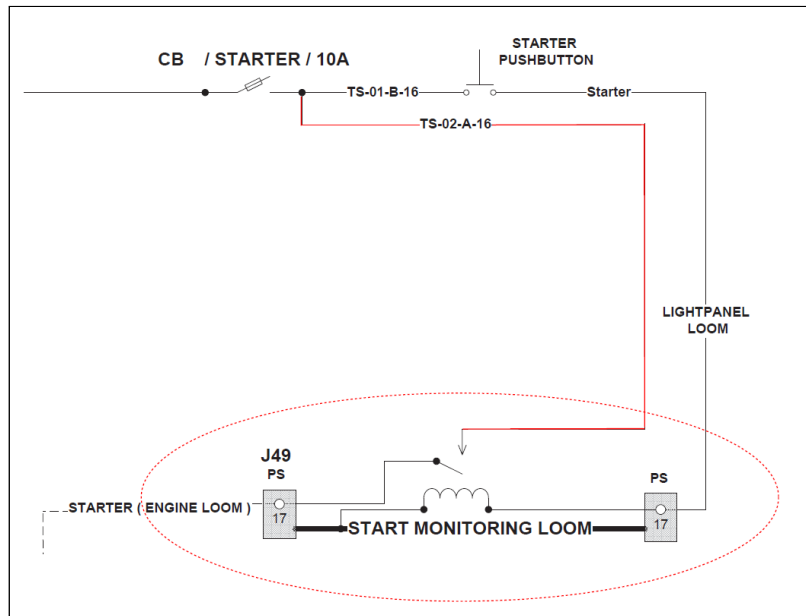

Figure 1a
- Install the appropriate start monitoring loom behind the cockpit panel between light panel loom and engine loom in accordance with Figure 1a.